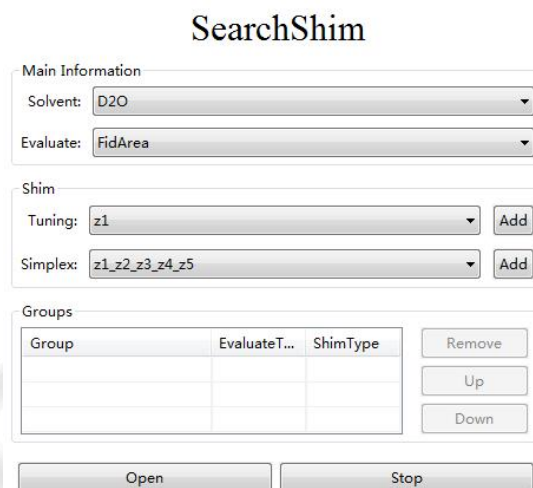

Figure 2.17 Search shimming interface
- (1) Click **Acquire > Shim > Search Shimming**, or click the down arrow of  button on tool bar then select **Search Shimming** to open **SearchShim** window (Figure 2.17).